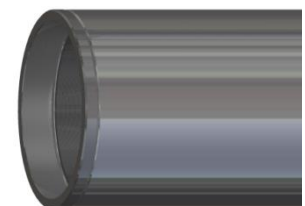

Fig. 12
L-11.7) Screw setting chamber cap (22) into setting chamber (30) (Fig. 12: Setting sleeve not shown for clarity).